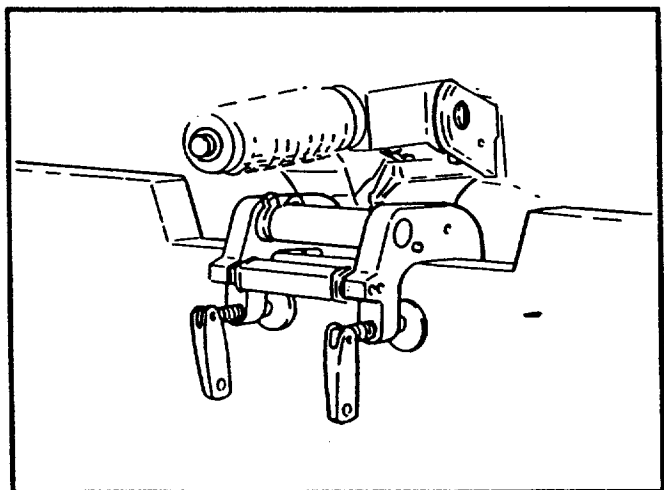

FIGURE 3
- Tighten stern bracket clamp screws alternately by hand until tight. (Figure 3)